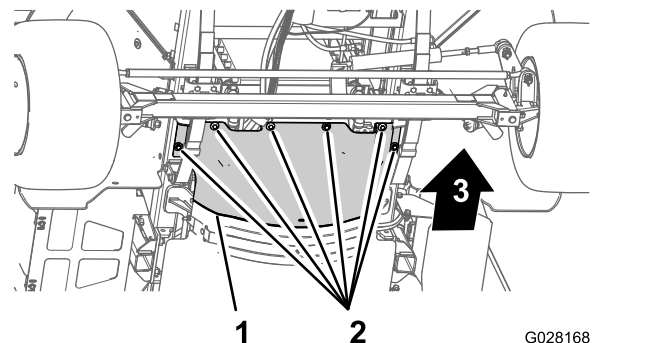

Figure 58
3. Remove the 6 hex-head bolts and 6 washers that secure the front, forward heat shield to the chassis and remove the shield (Figure 58).